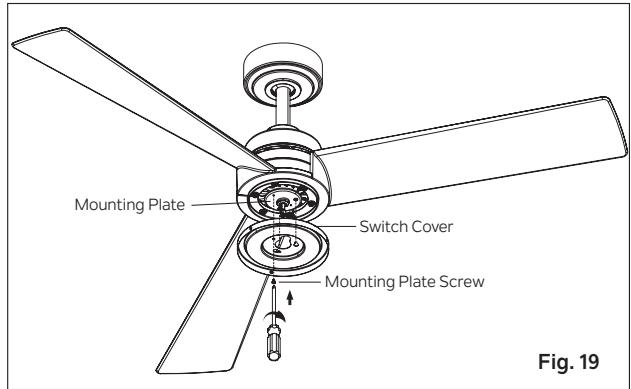

Fig. 19
Step 2. Place the key hole slots in the switch cover over the 2 mounting plate screws that were loosened on the mounting plate. Rotate the switch cover (clockwise) until it locks in place against the mounting plate screws at the narrow ends of the key hole slots. Align the remaining hole in the switch cover with the remaining hole in the mounting plate. Install the mounting plate screw that was removed from the mounting plate into the aligned holes. Tighten all 3 mounting plate screws to secure the switch cover in place. **(Fig. 19)**